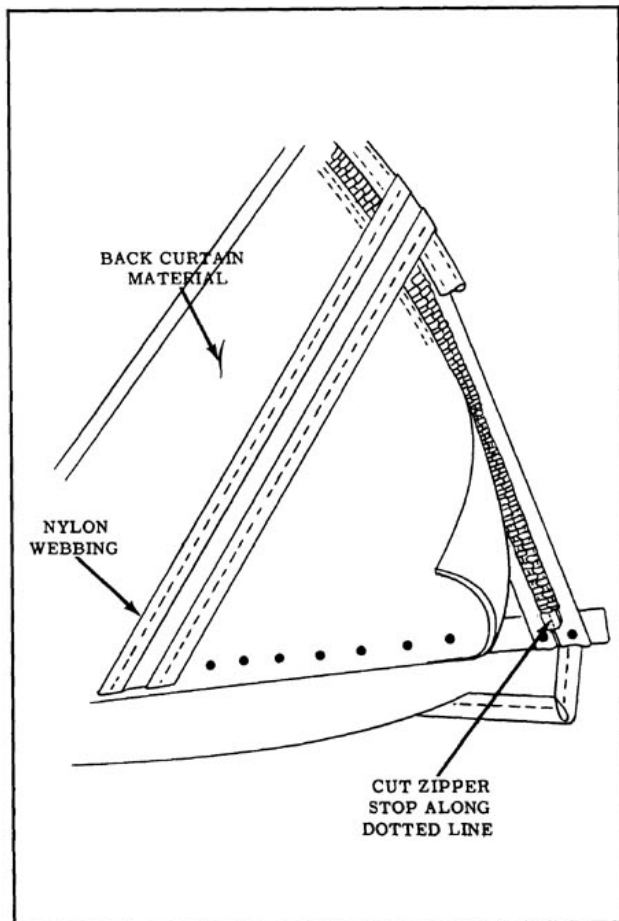

Fig. 16-148 Back Curtain Vinyl Replacement
9. Using a pair of wire cutting shears, cut zipper stop along dotted line and remove both halves of stop from zipper. (Fig. 16-148)
8. Tack nylon webbing to rear trim stick. (Fig. 16-148)